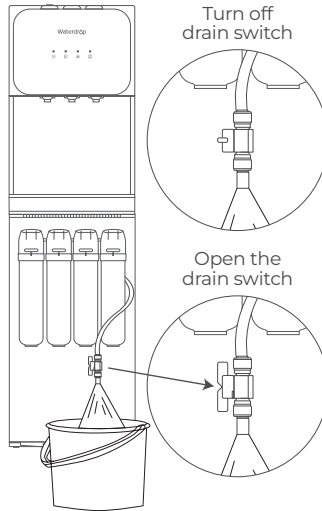

Figure.12
- ①. Open the drain switch next to the filter (inside the lower door) and place the drain outlet into a bucket.
- ②. Press and hold the reset button for 3 seconds to start automatic flushing. This process lasts 5 minutes, during which the filter indicator will flash green.
① NOTE: If the bucket fills up during flushing, press the reset button for 1 second to pause. Empty the bucket, then press it briefly again to resume.
- ③. Once flushing is complete, the system will resume normal operation, the filter indicator will turn solid green, and no water will flow from the drain. Please switch the drain valve to the closed position.
- (Figure.12)**